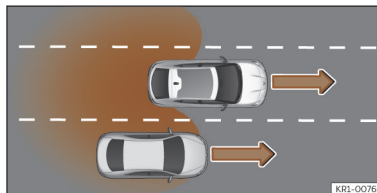

Fig. 147 Overtaking in the central lane and then joining the right lane.
- When overtaking another vehicle >>> **Fig. 147** with a speed difference of approx. 10 km/h (6 mph). If the vehicle is passing at a considerably higher speed, no indication will be displayed.